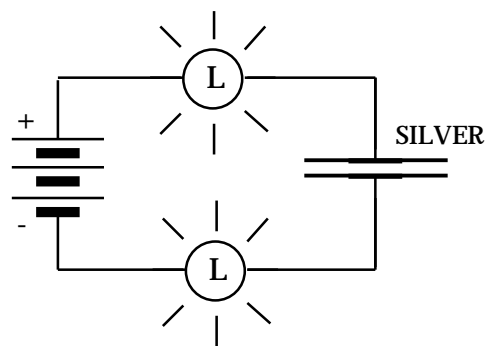

Figure 4.2
Charge a large silver capacitor through two long bulbs, using a 3-cell battery as in Figure 4.2 -- and with a compass under one of the wires. Carefully observe the brightness of the bulbs and the compass reading. Then discharge the capacitor with a wire, and observe the compass until the capacitor is completely discharged..
1. Draw arrows on Figure 4.2, to show charge flow in all parts of the circuit while the bulbs are lit. Don't use special arrowtail widths – just show directions.